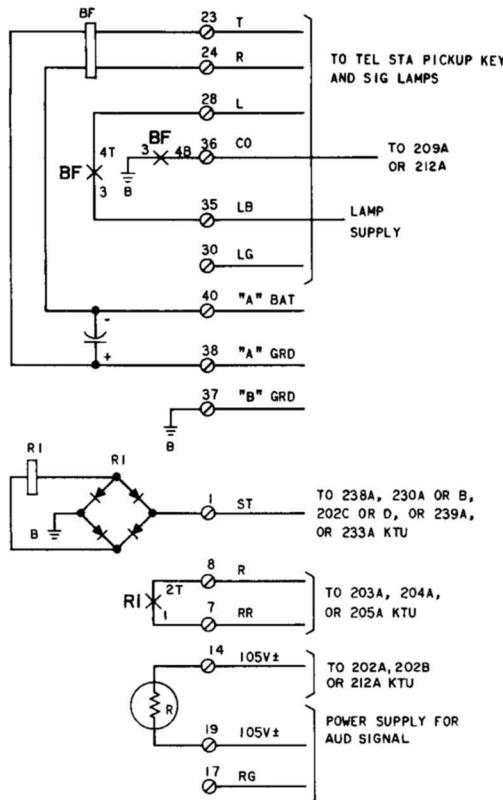
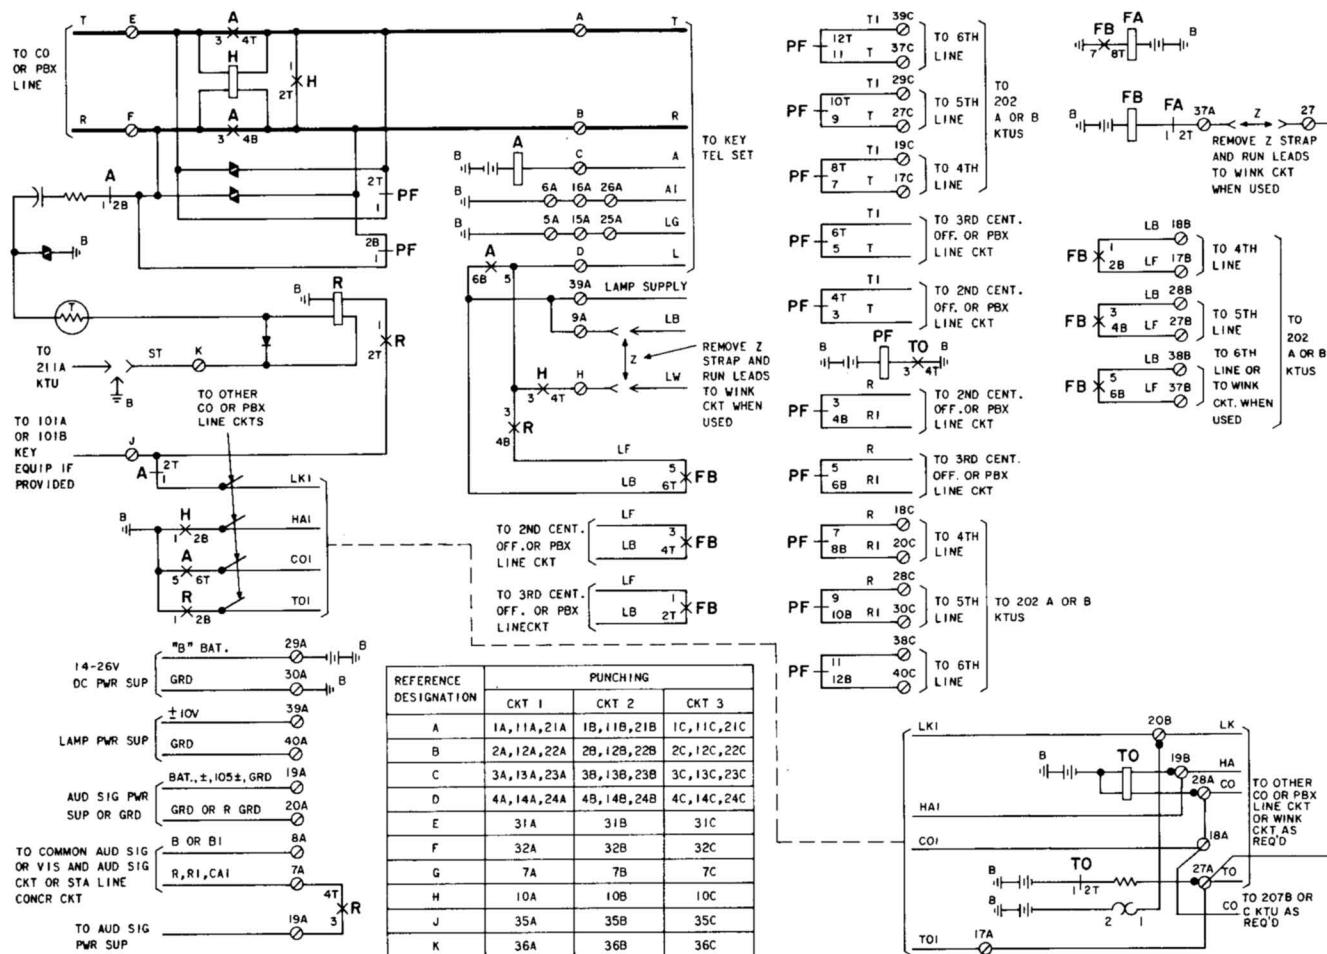

Fig. 12—Functional Schematic of 211A KTU (Intercom Line Circuit, Ringing Lamp Circuit, Noise Suppression Circuit, and Audible Signal Control Circuit)
Fig. 13—Functional Schematic of 212A KTU (MD) (CO or PBX Line Circuit With Lamp Flashing and Incoming Signal Time-Out Circuits)
2.15 The 211A KTU (Fig. 12) is used on intercom lines to provide:
K. 212A KTU (MD) (CO or PBX Line Circuit With Lamp Flashing and Incoming Signals Time-Out Circuits)
2.16 The 212A KTU (Fig. 13) provides line pickup on three CO or PBX lines and common equipment for up to six lines.